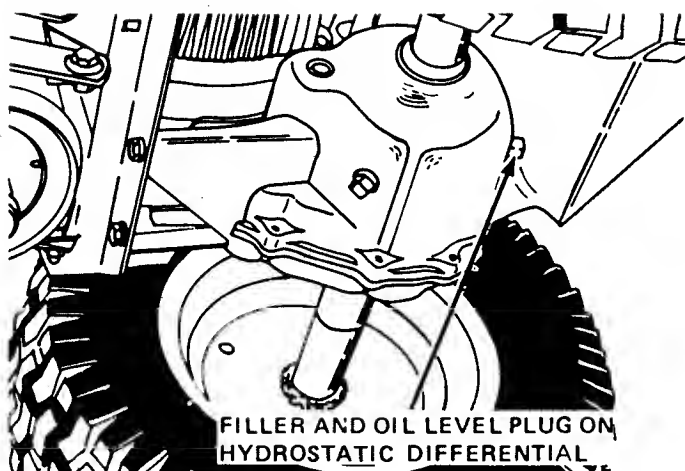

Figure 47
2. Remove the oil level and filler plug from the rear of the transmission, Figure 47.